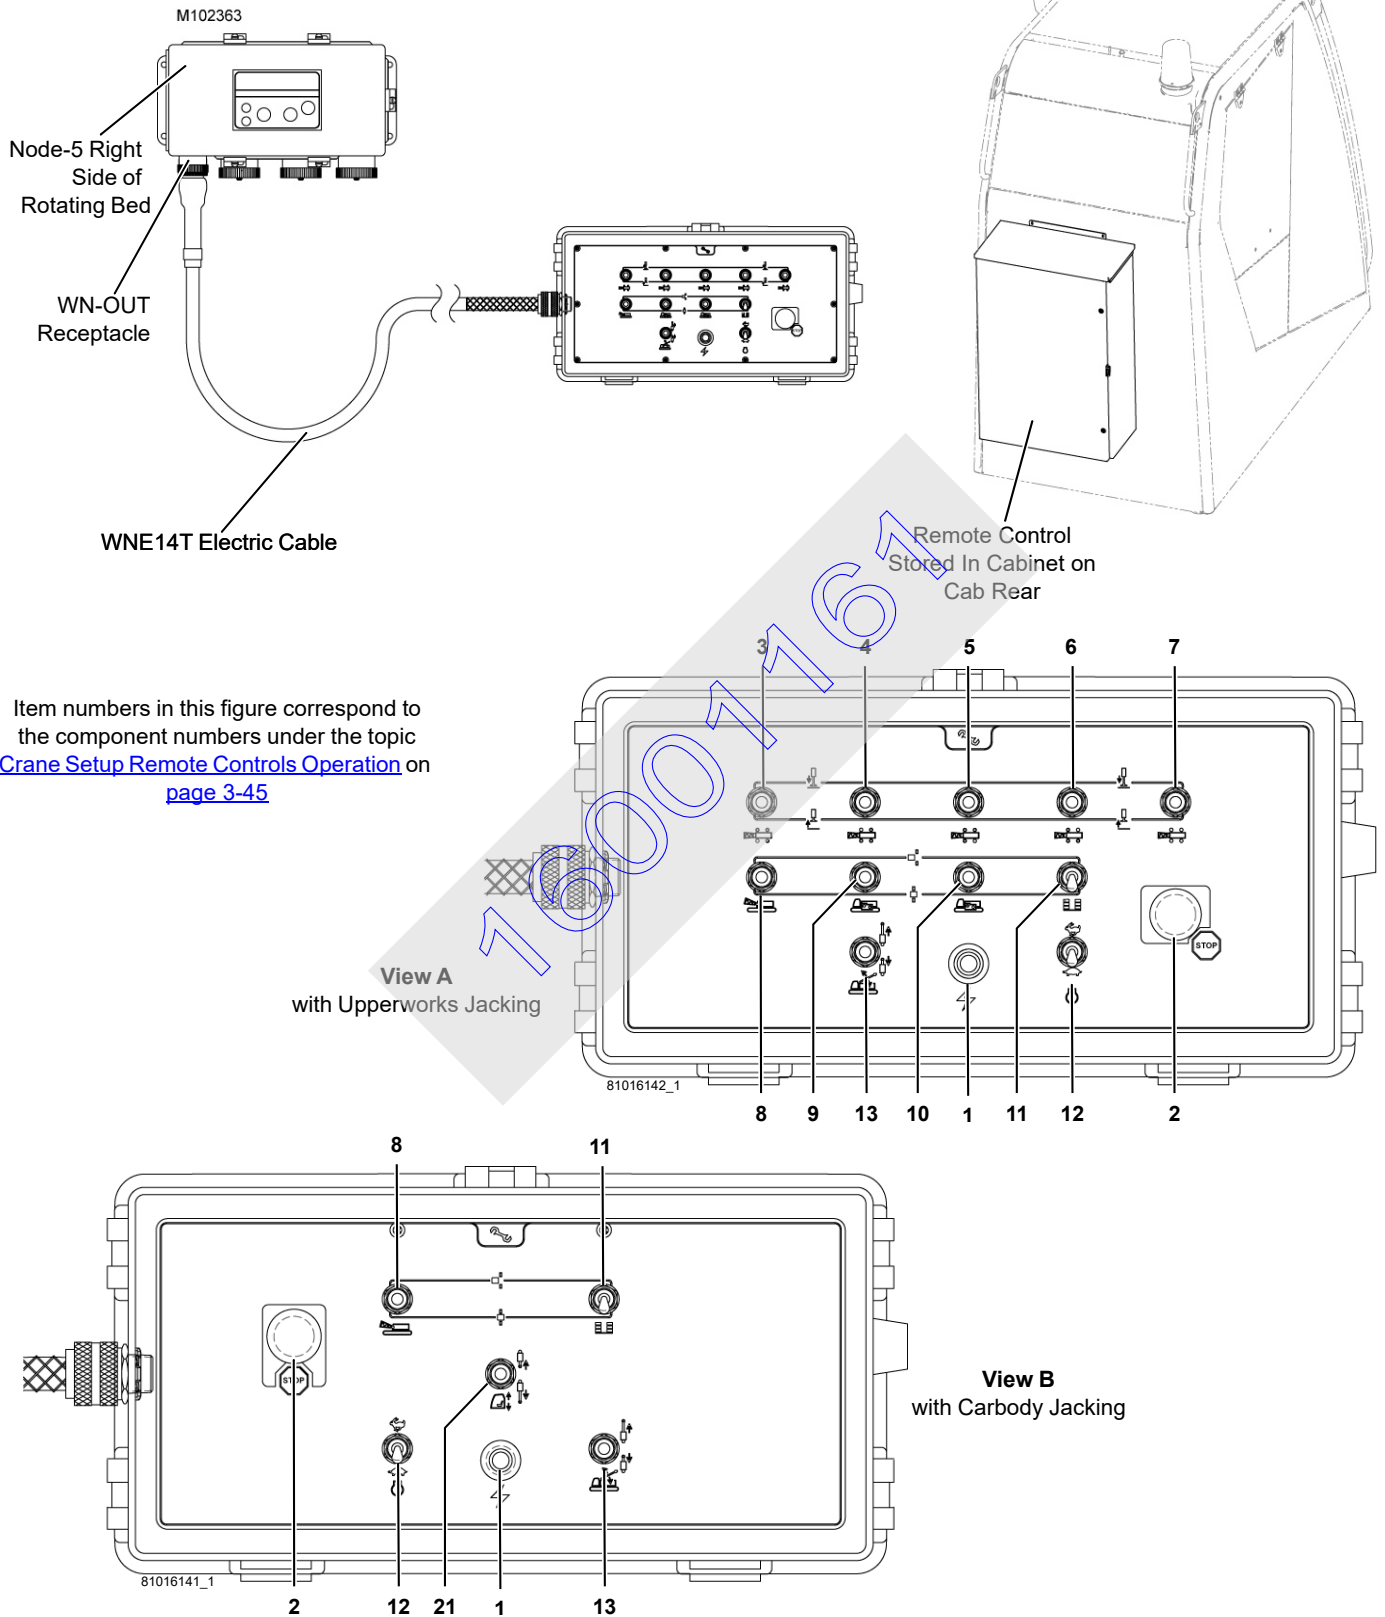

FIGURE 3-27
- Wired Remote controls are shown in Figure 3-27
2. Disconnect electric cable (WNE14T) from WN-OUT receptacle on NODE 5 (see Figure 3-27).
For wireless remotes, see Figure 3-26 for the following items. For wired remotes, see Figure 3-27 for the following items.